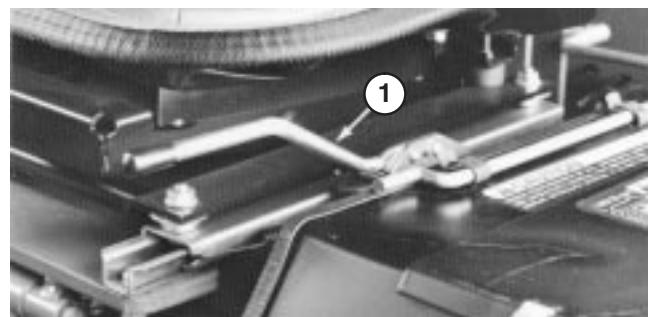

Figure 22
**Seat Adjusting Lever** (Fig. 22) – To adjust standard seat, push lever backward and slide seat to the desired position. Release lever to lock seat in place.